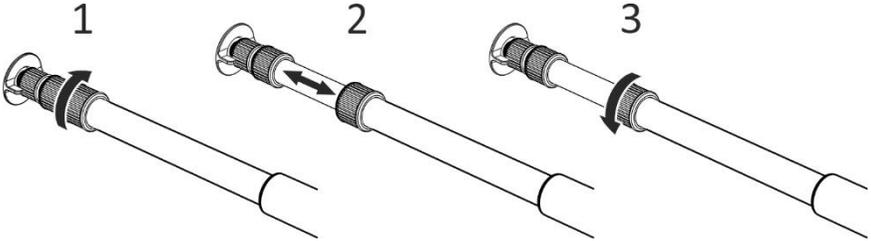

Figure 2.4 – Setting the required length of the telescopic rod
2.2.5.1 Set the required length of the telescopic rod . To do this, set the length of each of three segments of the rod (Figure 2.4):